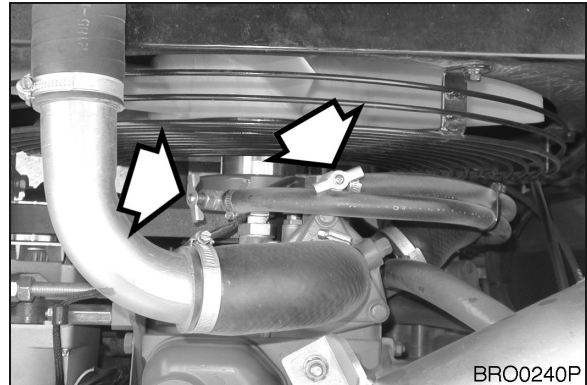

Figure 74
3. Open heater shut-off valves (Figure 74) to allow coolant to drain from heater core.